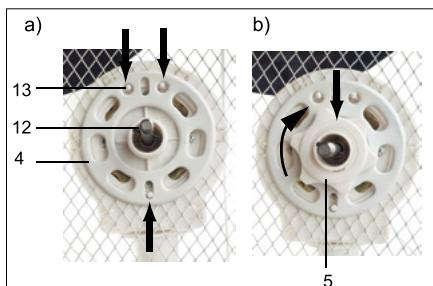

Fig.13: Mounting of rear guard grille
1. Insert the base (3) with the motor block and the fan speed adjustment push buttons into the base (1), Fig 13 a).